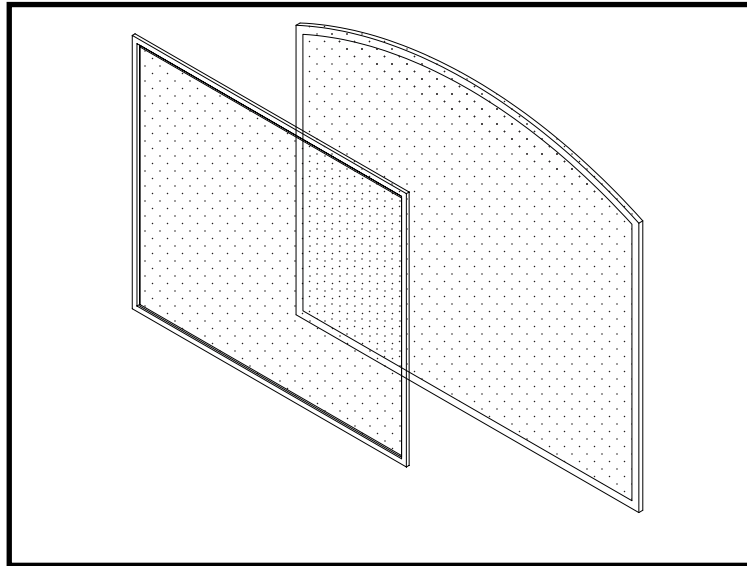

Figure 73: TC36 & TC36 Arch safety barrier screen.
6. Attach the magnetic safety barrier screen (Figure 73) to the outer-most door frame